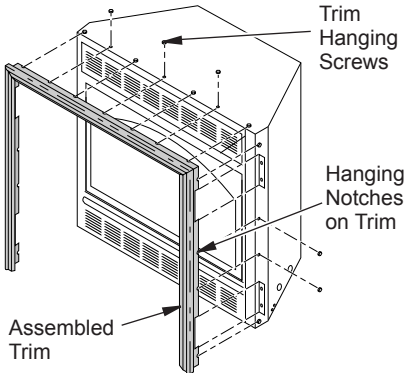

Figure 7 - Attaching Perimeter Trim to Fireplace
- Tighten trim hanging screws (#10 x 6.25 shoulder) into holes in cabinets. Place the assembled trim onto fireplace cabinet. Align hanging notches on trim with hanging screws on side of fireplace (see Figure 7). Push trim firmly into place, sliding hanging notches over hanging screws.
10. Install perimeter trim after final finishing and/or painting of wall (see Figure 7, page 10).